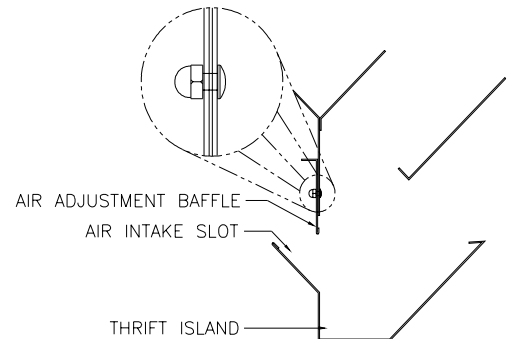

fig. 23
D. Air Adjustment Baffle [Refer to fig. 23]